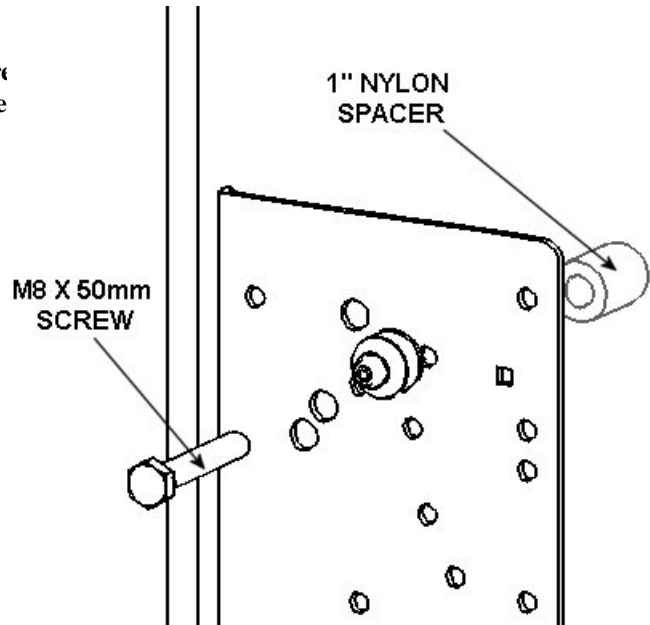
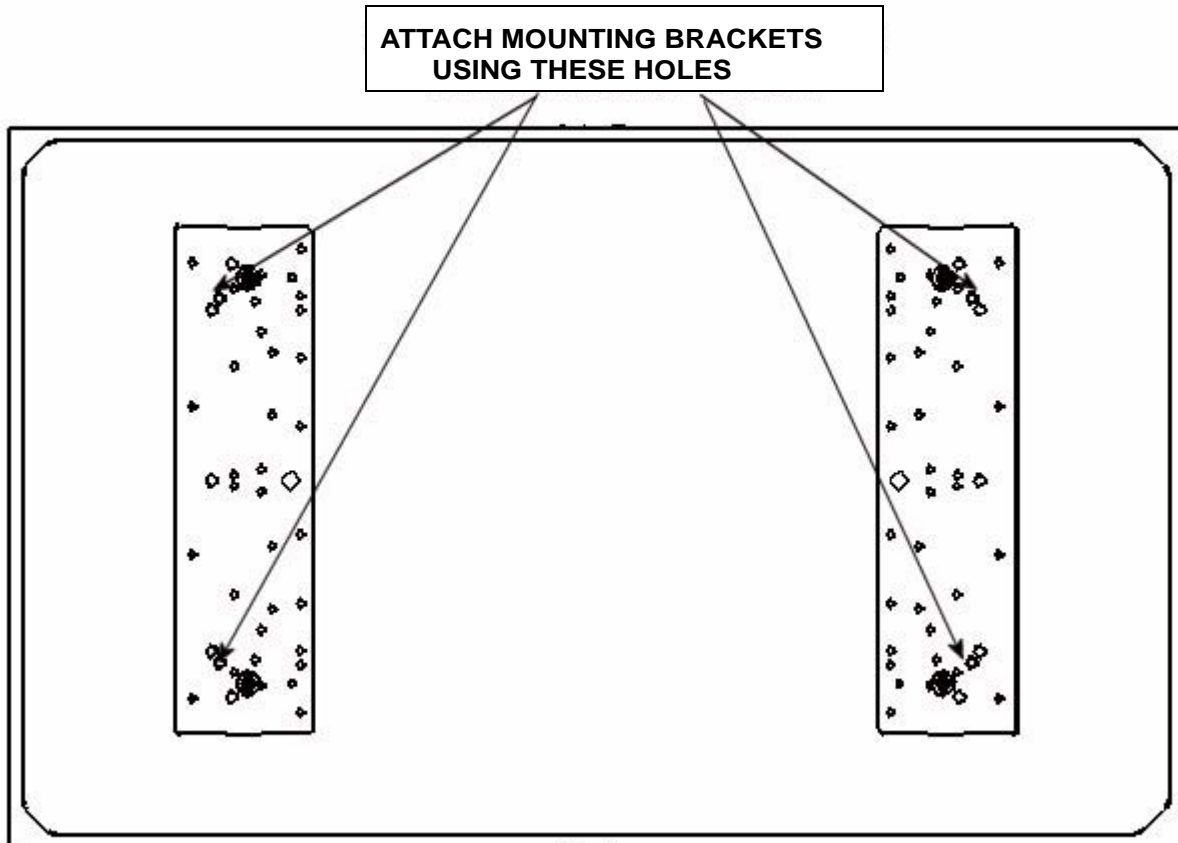

Figure 8. Spacer Installation for Group 3
Figure 9. Bracket Attachment for Group 3
4. Place the interface brackets over the Nylon spacers (see Figure 8 and Figure 9).
6. Using the hardware in the parts bag labeled B, attach the interface brackets to your display using the proper holes in each interface bracket (See Figure 8 and Figure 9). Do not overtighten the mounting screws.